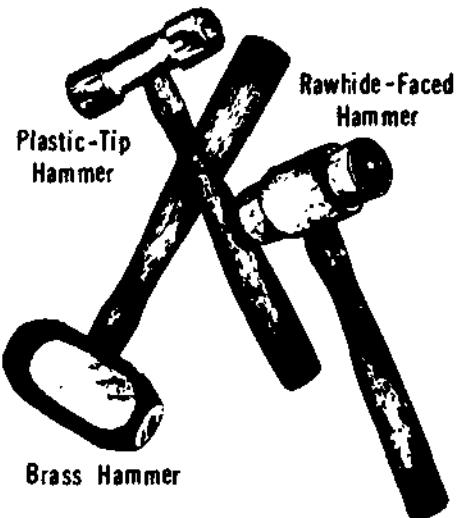

Figure 1-114. Soft-Face Hammers
- f) Three types of soft-face hammers are shown in Figure 1-114.